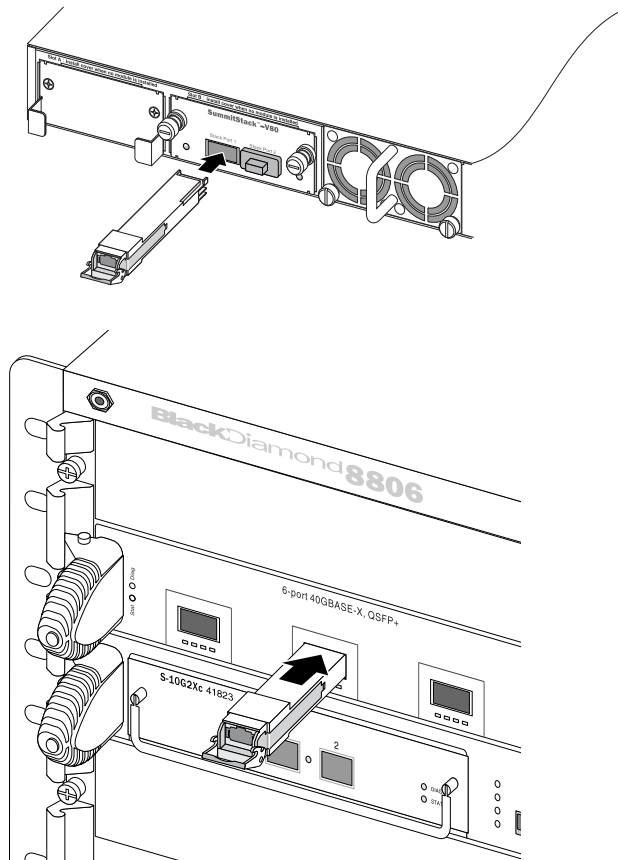

Figure 5: Installing a QSFP Module (ExtremeSwitching, Summit, and 8000 Series Switches)
3. Holding the QSFP module by its sides, insert the QSFP module into the port on the switch or module (see Figure 5).